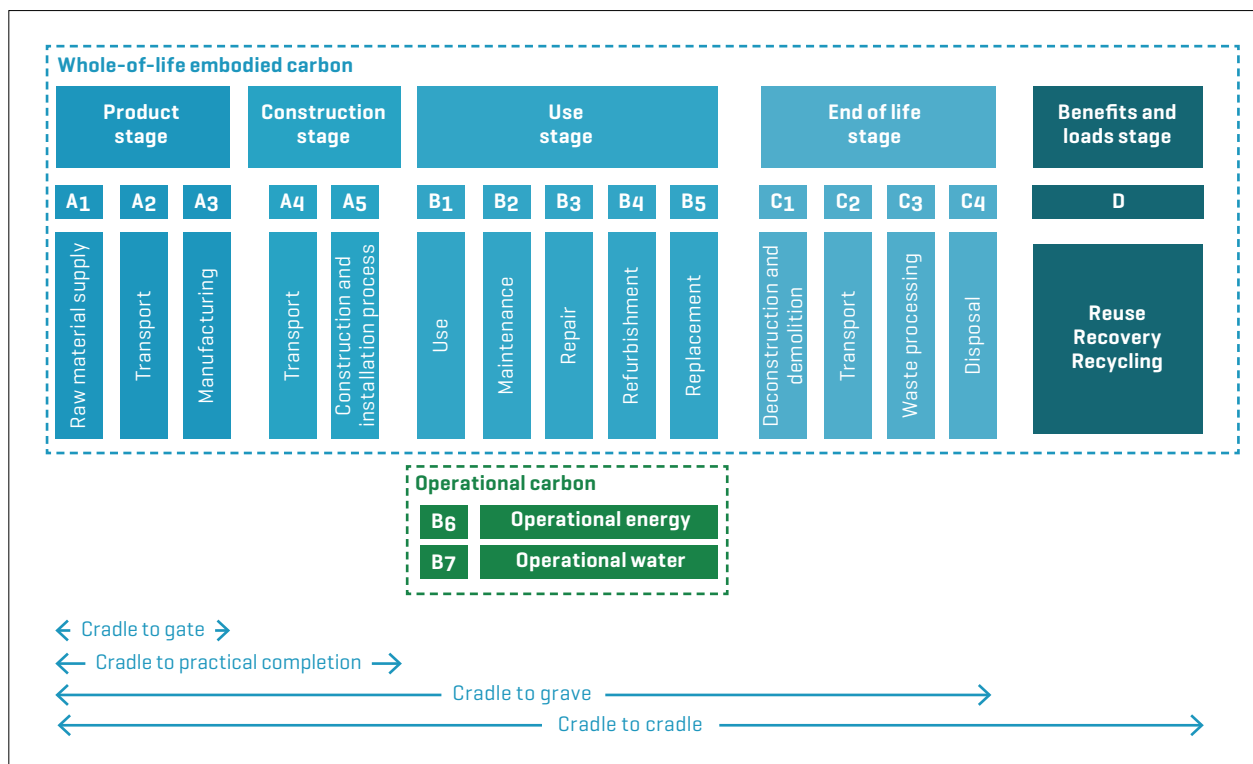

Figure 2. Stages considered in life cycle assessment.
**2.0.2** Embodied carbon can be assessed over different periods (Figure 2), such as: